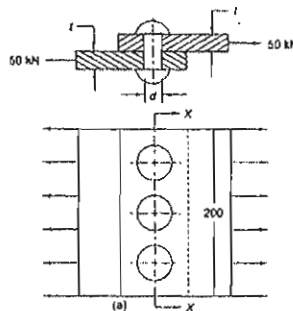

Fig. 1
- Two plates, subjected to a tensile force of 50 kN, are fixed together by means of three rivets as shown in Fig 1. The plates and rivets are made of plain carbon steel 10C4 with tensile yield strength of 250 N/mm2. The yield strength in shear is 50% of the tensile yield strength, and the factor of safety is 2.5. Neglect the stress concentration, determine: